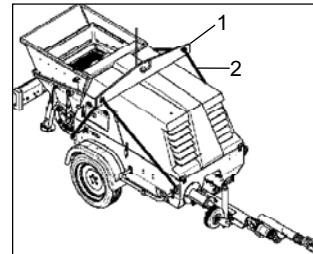

Fig. 5
To lift the machine, use the provided attachment points (Fig. 5), using a yoke (Fig. 5 Ref. 1) (not provided) and n°4 straps (not provided).
- Caution! Never use attachment points other than as specified in the figure (Fig. 5) to lift the machine.